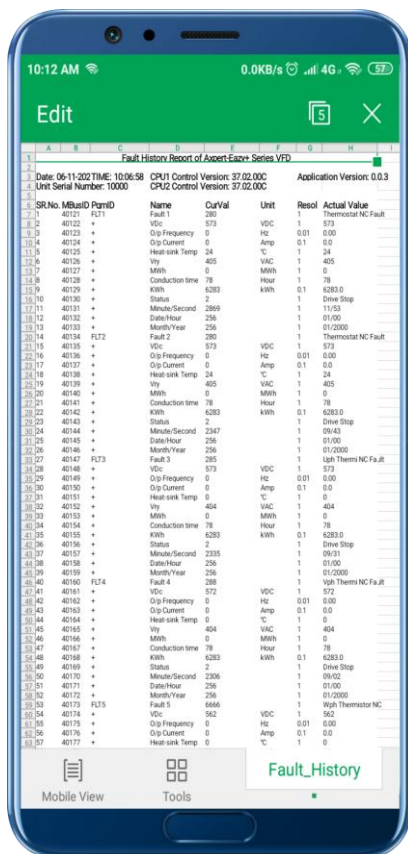

Figure 26: Fault history report view
- Fault history report, in excel format, will be generated in the “**Axpert Mcom**” folder after the copy operation is completed. The file shall appear as shown in Figure 26.